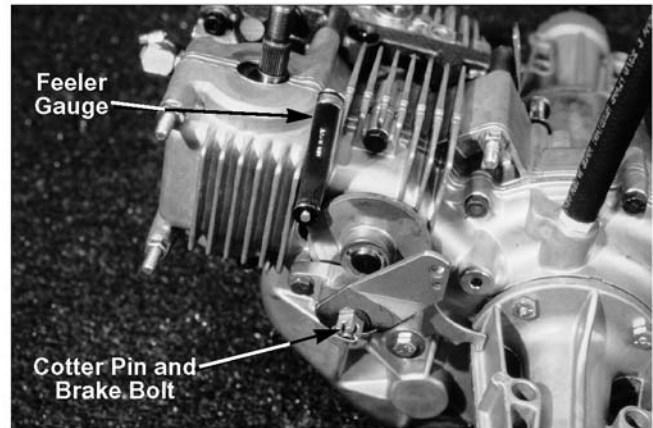

Figure 5-10.
11. Shown here is the feeler gauge inserted between the brake disc and outer brake puck. To set the brake you will have to remove the cotter pin from the brake bolt, and then tighten or loosen the brake nut until the specified setting is reached. See Figure 5-10.